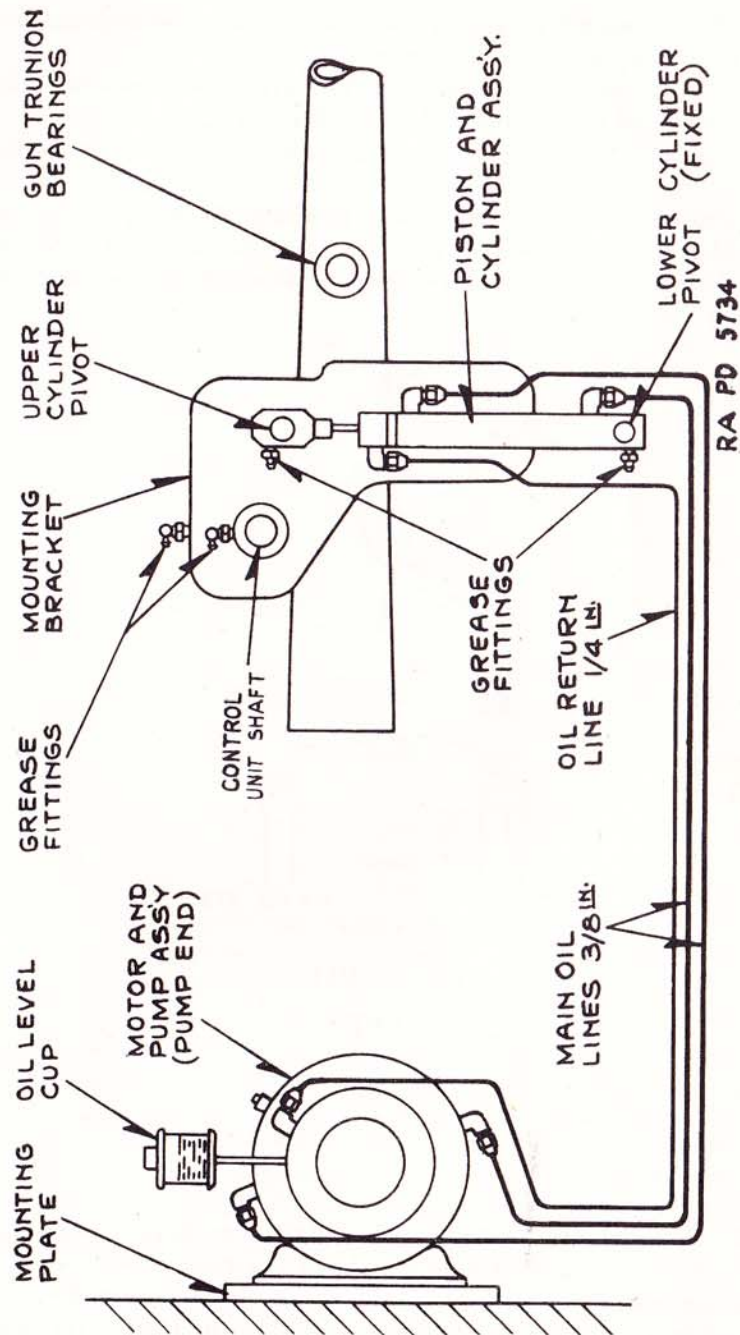

FIGURE 80.—Lubrication system.
(2) Check for free movement in the mounting of the piston and cylinder assembly.
(3) Tighten the packing gland on the oil pump shaft by removing the cover plate and turning the packing gland nut in a clockwise direction with a screw driver. Do not get it too tight.
(4) Lubricate the four alemite fittings shown in figure 80.
(5) Check all external electrical connections to see that they are tight.
(6) Check all oil line connections.
(7) Check for presence of air in the oil system.
(11) Reconnect all wiring by colors to the same connections from which the damaged ones were removed.
*e. Replacing grease fittings.*—(1) The grease fittings are of the alemite type and are located as follows (fig. 80):